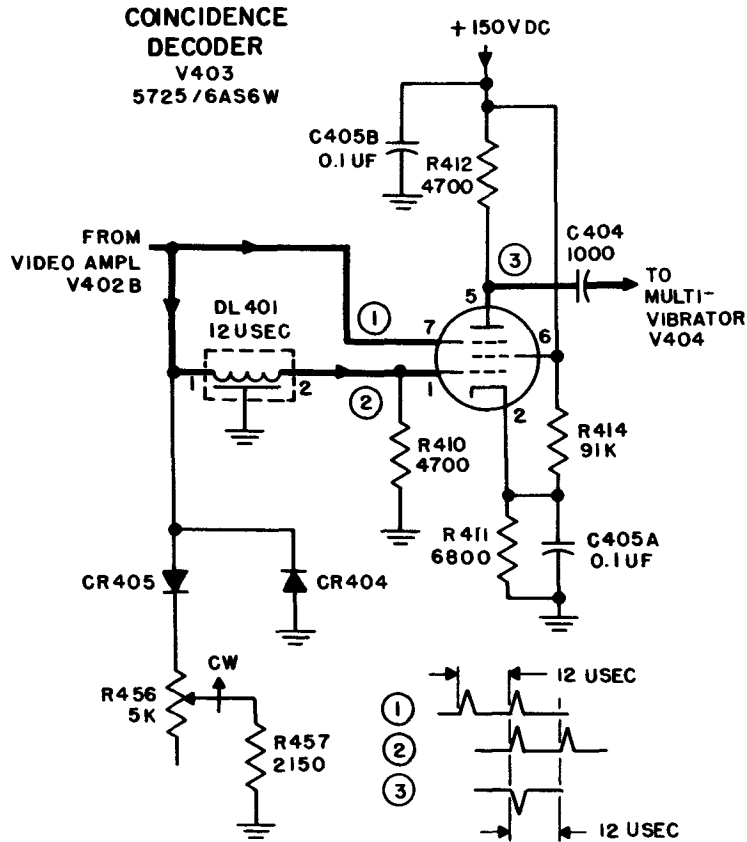

Figure 4-19. Radio Receiver R-824/URN, Coincidence Decoder, Simplified Schematic Diagram
**(e) COINCIDENCE DECODER.** – Coincidence decoder V403 (figure 4-19) is a semi-remote cutoff pentode biased to cutoff by a positive voltage applied to its cathode.